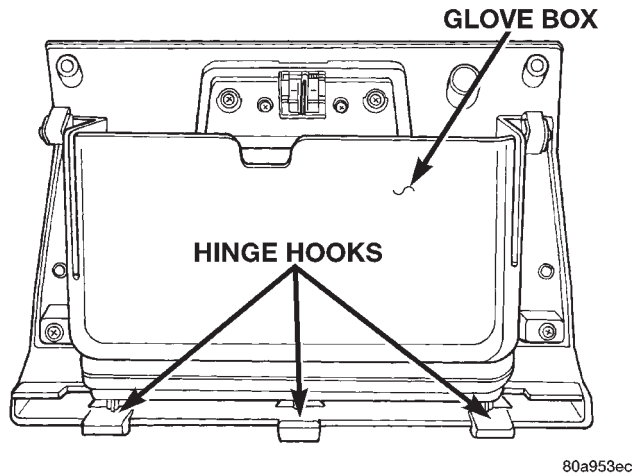
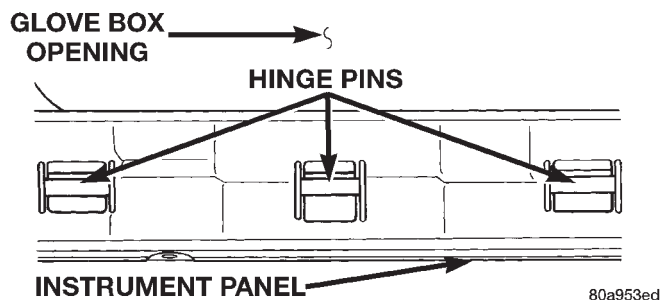

Fig. 23 Glove Box Hinge Hooks
Fig. 24 Glove Box Hinge Pins
(1) Disconnect and isolate the battery negative cable.
(2) Open the glove box.
(3) Locate three screws in the bottom of the glove box bin. Remove only the center screw.
(4) Depress the two sides of the glove box bin far enough so that the rubber stop bumpers on each side of the bin will clear the metal stops of the bracket on each side of the glove box opening.
(5) While holding the sides of the glove box bin depressed, roll the glove box downward until the stop bumpers are beyond the stops, then release the sides of the bin.
(6) Grasp the upper outboard corner of the glove box door securely with both hands.
(7) Pull the door firmly and quickly away from the instrument panel to unsnap the three glove box hinge hooks (Fig. 23) from the three hinge pins on the instrument panel (Fig. 24).
(8) When installing the glove box, first insert the glove box bin in the glove box opening far enough so that the rubber stop bumpers on each side of the bin are behind the metal stops on each side of the glove box opening.
(9) Starting on the outboard side of the glove box, insert the first glove box hinge hook over the first hinge pin on the instrument panel.
(10) Use a slight twisting action on the glove box to insert the second hinge hook under the second hinge pin.
(11) Finally, again using a slight twisting action on the glove box, insert the last hinge hook over the last hinge pin.